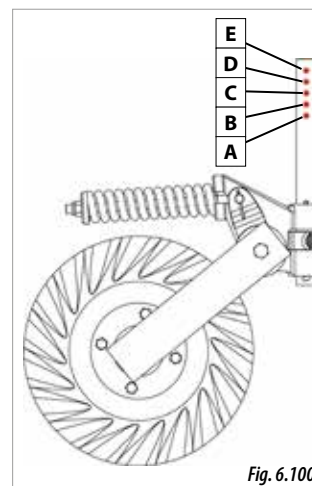
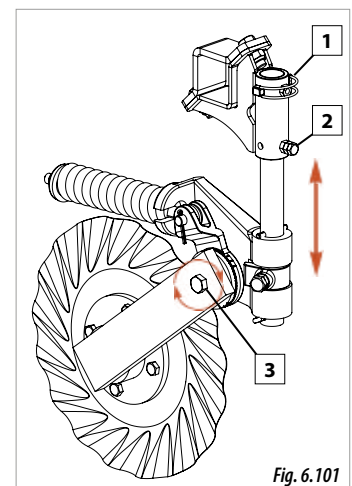

Fig. 6.100
Fig. 6.101
- 1- Remove the pin (1, Fig. 6.101)
- 2- Loosen the screw (2, Fig. 6.101)
- 4- Place the pin (1, Fig. 6.101) in the desired hole (Fig. 6.100 to fix the position.
- 5- Finally, lock the rod using the screw and the lock nut (2, Fig. 6.101).
- 1- Loosen the discs' fixing screw (3, Fig. 6.101)
- 3- Tighten the fixing screw (3, Fig. 6.101).